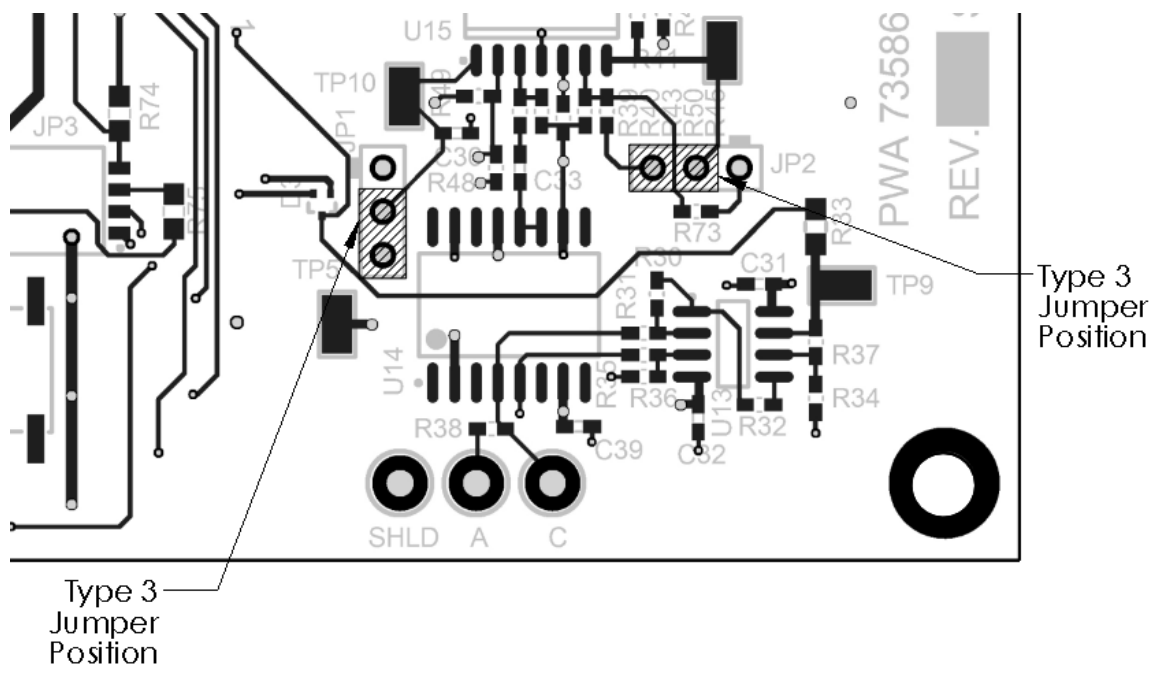

Figure 4B
8. Pull the jumper at JP1 off of the header and re-install in the position shown in Figure 4B.
9. Pull the jumper at JP2 off of the header and re-install in the position shown in Figure 4B.